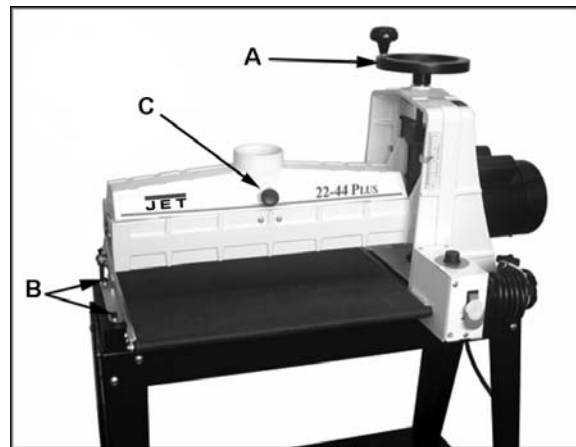

Figure 5
1. Raise the drum as far as it will go by turning the handwheel (A, Figure 5) clockwise.
3. Secure the conveyor in place with four 5/16"-18 x 3/4" socket head cap screws (B, Figure 5), four 5/16" lock washers and four 5/16" flat washers.
To open the dust cover, push in on the knob (C, Figure 5) and lift. The latch can be adjusted using the screw behind it.